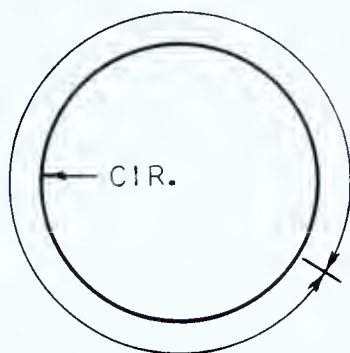

FIG. 237 — *Circumference*
**CIRCUMFERENCE** — Fig. 237. The distance measured from any point on a circle to the same point around the circle. There are  $360^{\circ}$  in any circumference.